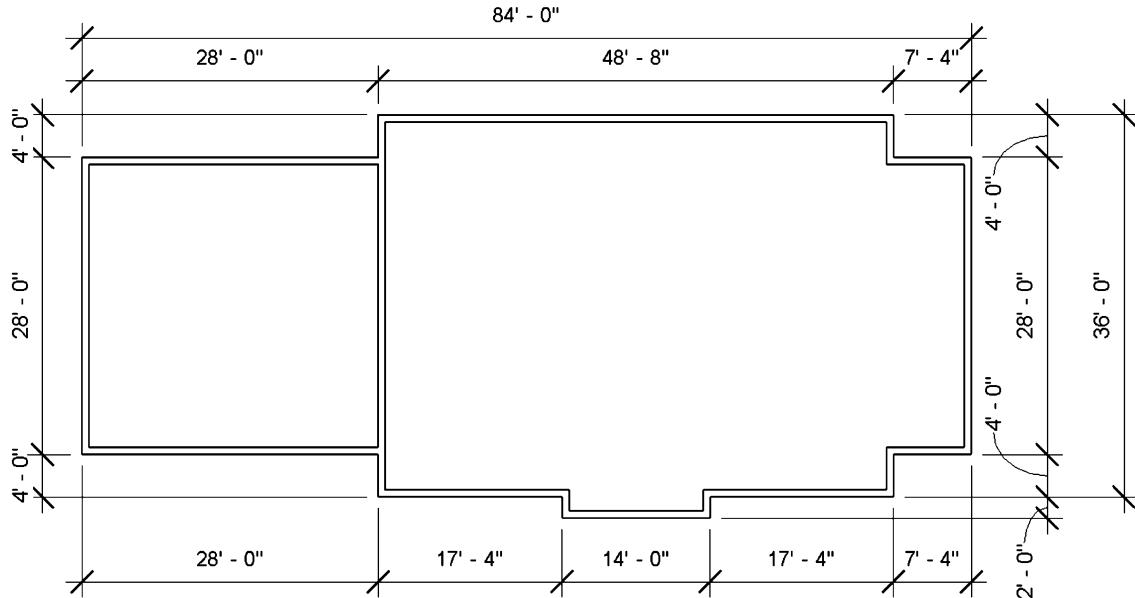

FIGURE 5-2.8 Exterior walls with final dimensions
15. Modify wall locations by selecting a wall and modifying the temporary dimensions; the selected wall will move to match Figure 5-2.8; do not draw the dimensions at this time.